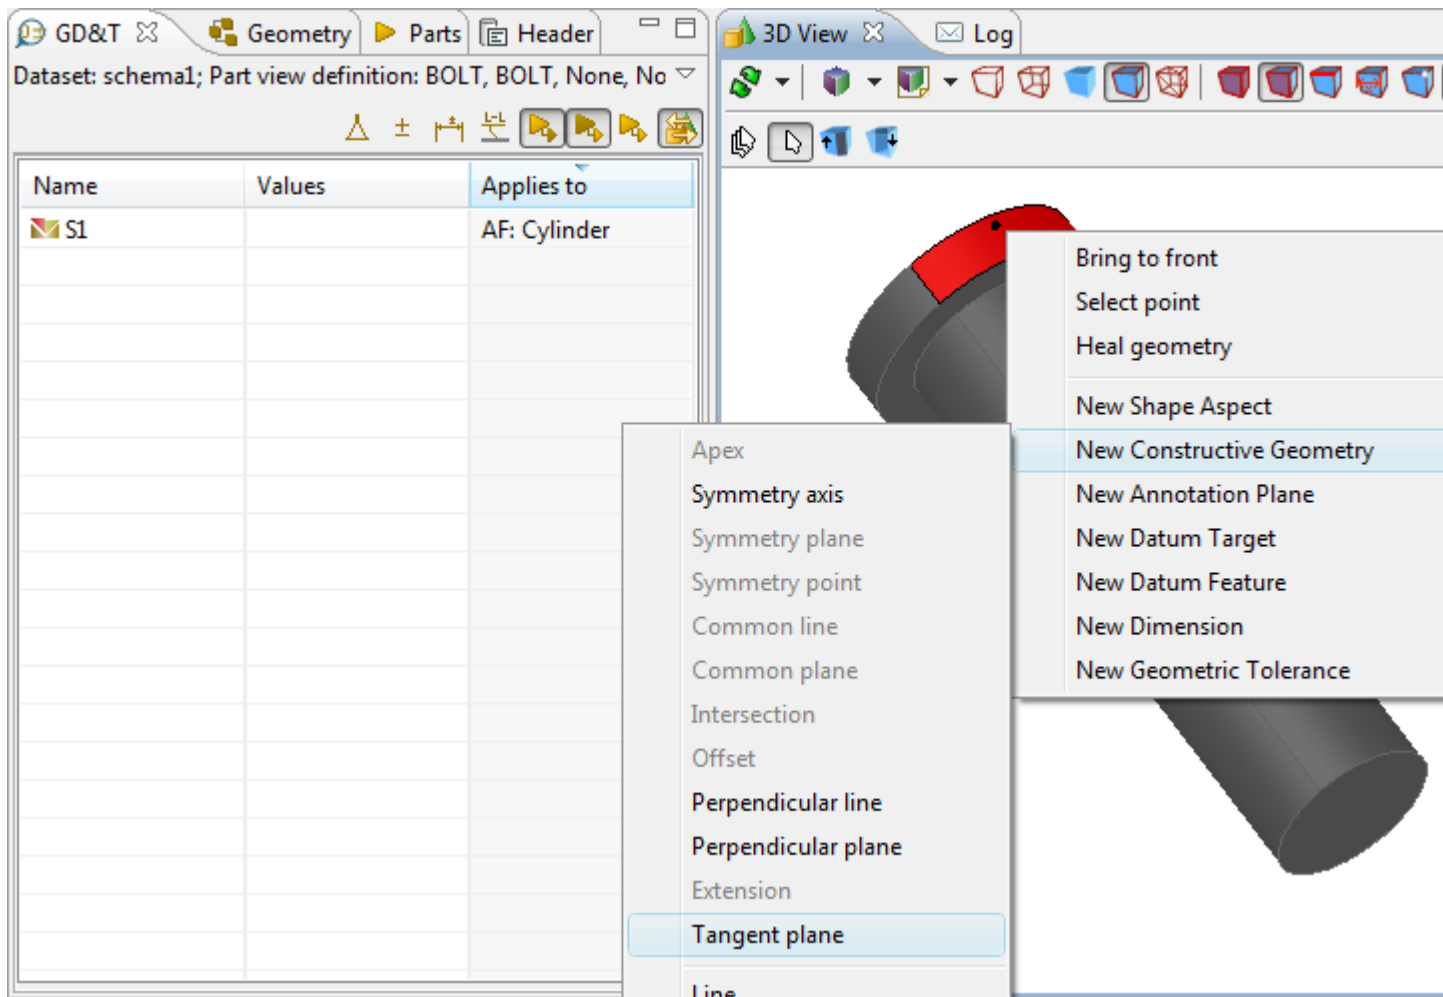

Figure 1. Selected items: cylinder and point, menu item to create tangent plane in GD&T view and cylinder surface and point in 3D View
- Right click and select **Create Constructive Geometry -> Tangent plane** item in the appeared context sensitive menu (see Figure 1).